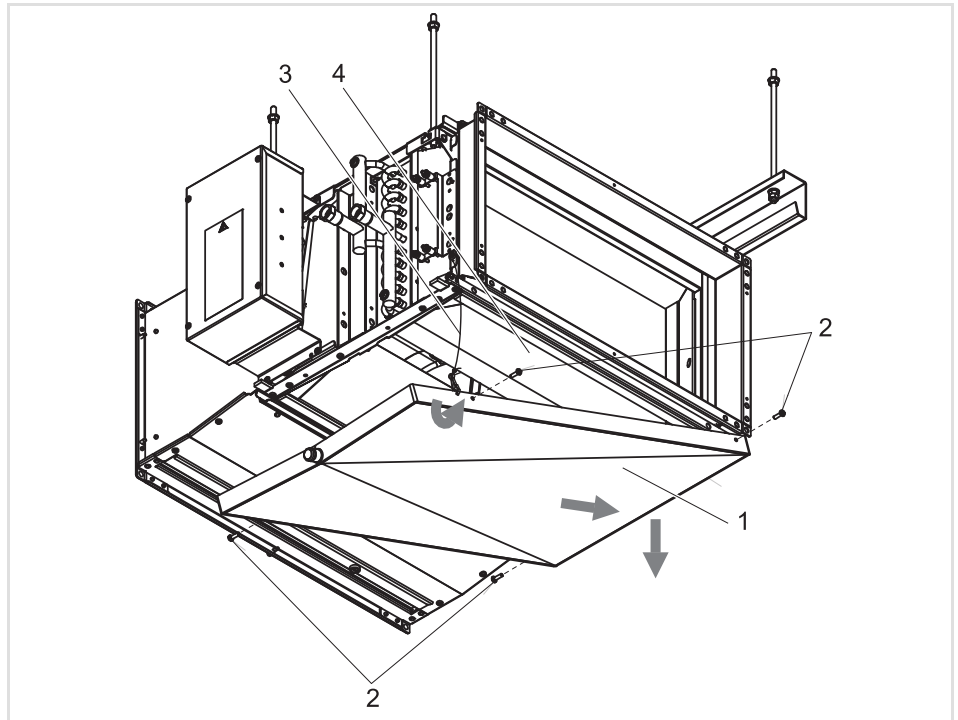

Fig. 8-4: Checking heat exchanger and drain pan
- Dismount the drain pan (see Fig. 8-4, Pos. 1 and Pos. 2, 2 screws right and left) and the arrester straps (see Fig. 8-4, Pos. 3). Depending on the installation situation and model, the disassembly of the on-site condensate drain pipe and the sensor of the condensate pump might be required.
- Check the heat exchangers (see Fig. 8-4, Pos. 4) and the condensate tray for contamination or microbial growth and clean/disinfect these if necessary. Depending on the installation situation, it might be required to remove the heat exchanger. In this case, please follow the instructions in Chapter 8.3.7.